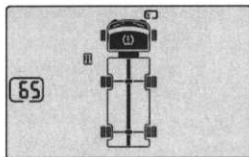

Figure 5-3-1
Hold **SET** 3s to enter into parameter mode. Press Δ or ∇ to select to figure 5-3-1. Then press **SET** enter into **the high temperature**
- 2 Press Δ or ∇ to select to Figure 5-3-1